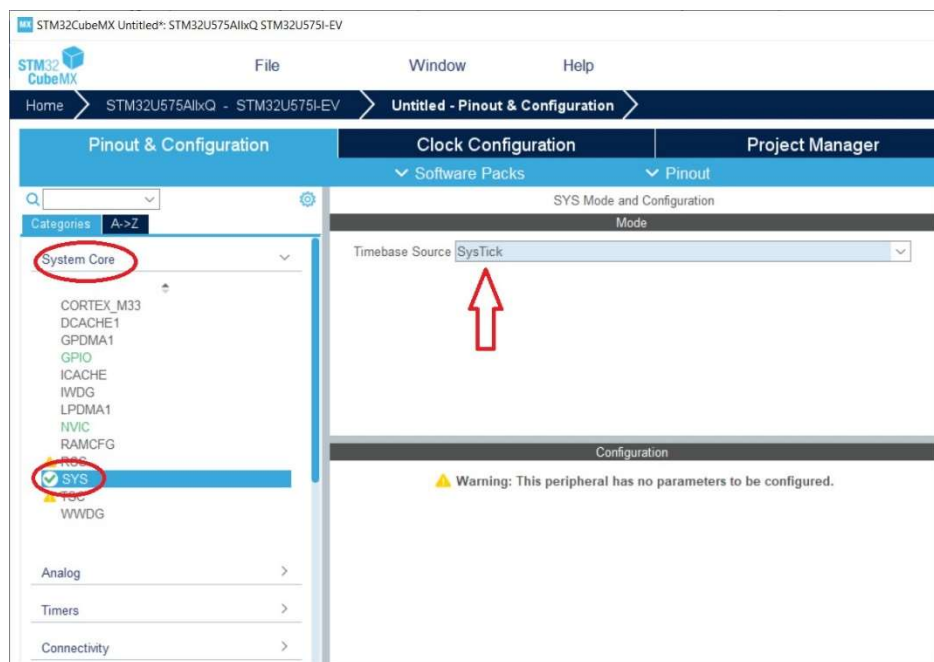

Figure 3.5 – SysTick Chosen as Timebase Source
- a) Under the “**Pinout & Configuration**” tab, locate the “**System Core → Sys**” category to open the “**SYS Mode and Configuration**” window. This will allow to choose the SysTick for the “**Timebase Source**” dropdown list as shown in Figure 3.5.